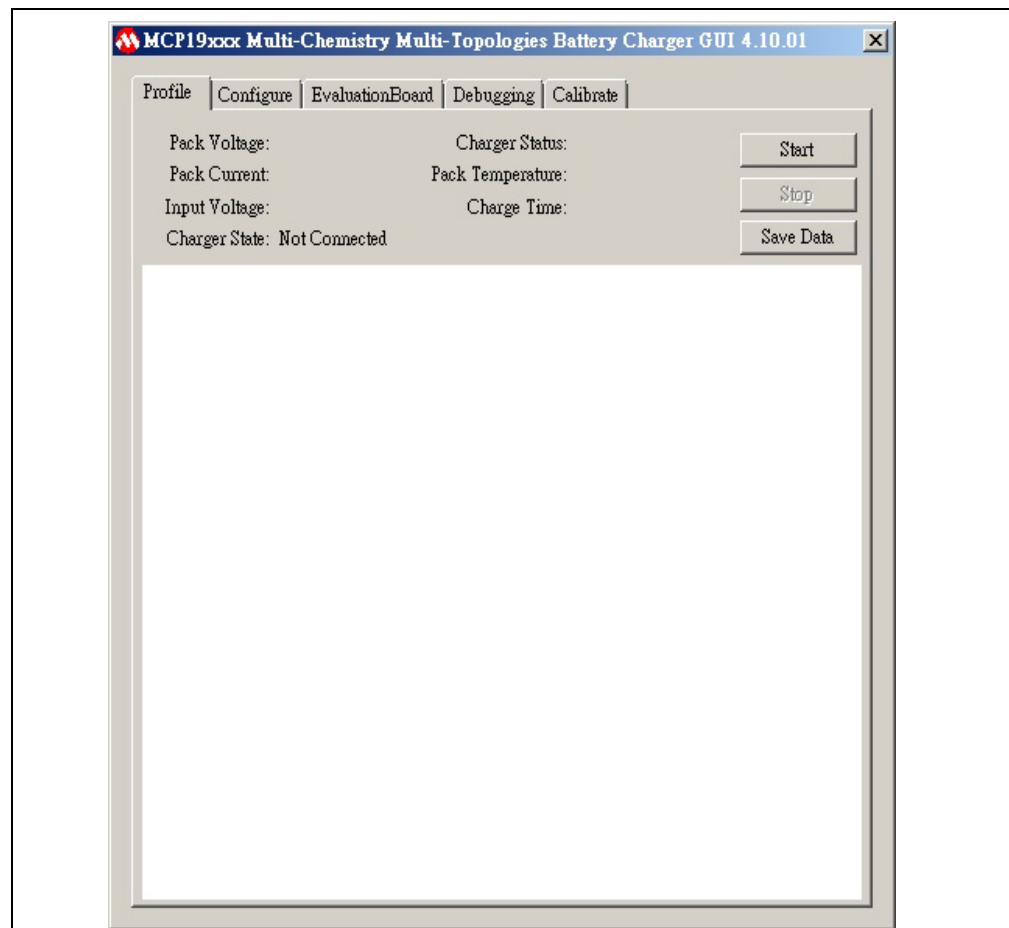

FIGURE 2-1: MCP19XXX Multi-Chemistry Multi-Topology Battery Charger GUI.
4. Once the installation is complete, the GUI will appear on the screen, as shown in Figure 2-1: